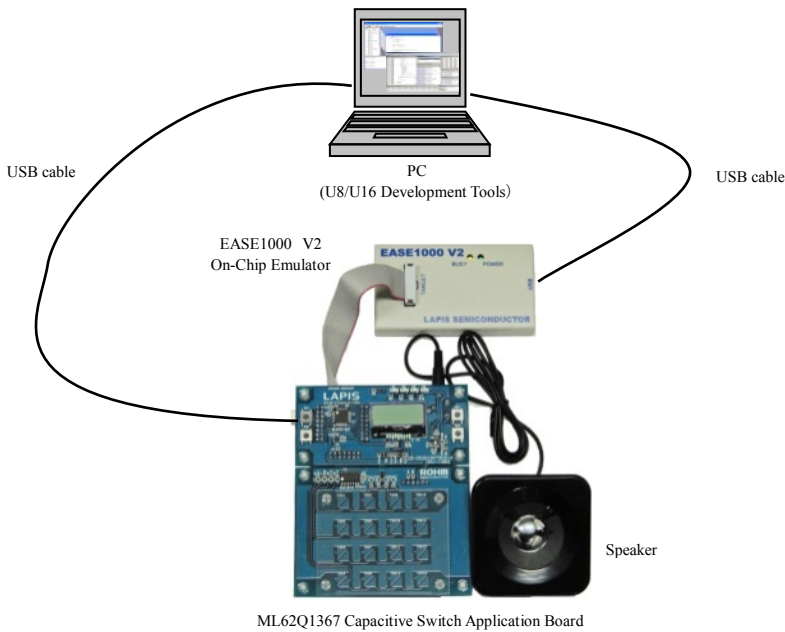

Figure 5 Use with the U8/U16 Development Tools configuration
- 5-1. As shown in figure 1 and figure 5, connect the ML62Q1367 Capacitive Switch Application Board to the EASE1000 V2 On-Chip Emulator (hereinafter “EASE1000”).